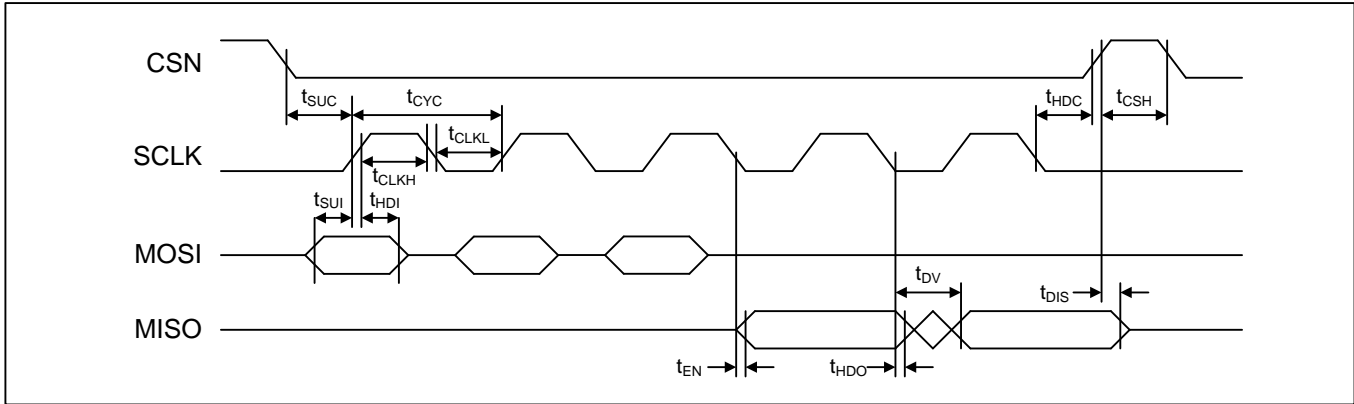

Figure 24 - SPI Interface Timing
**Note 3:** See timing diagram in Figure 24.
**Note 4:** See timing diagram in Figure 24.